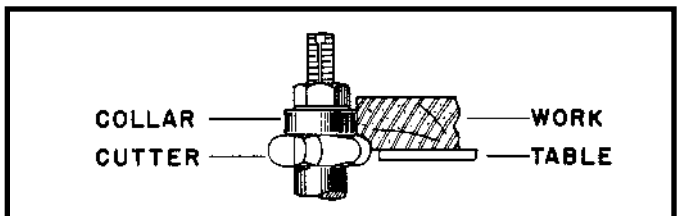

Fig. 33
3. When the collar is used above the cutter (Fig. 33), the operator will be unable to see the cut. However, the advantage in this method is that the cut is not affected by slight variations in the thickness of the stock. Also, accidental lifting of the work will not gouge the workpiece. Simple correction for the mistake is to repeat the operation.